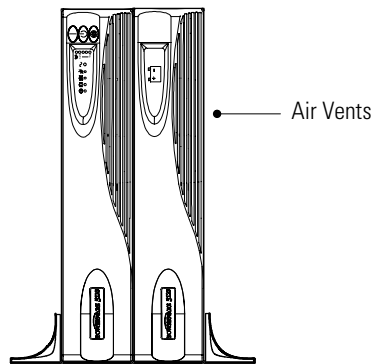
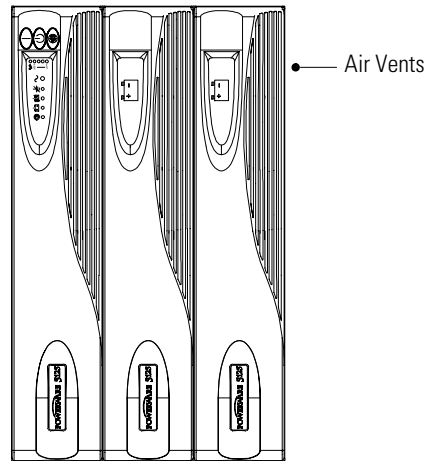

Figure 9. Pedestals with Two Cabinets
Figure 10. Tower Setup with Three Cabinets
8. Carefully position the cabinets upright with the air vents at the top (see Figure 9 or Figure 10).